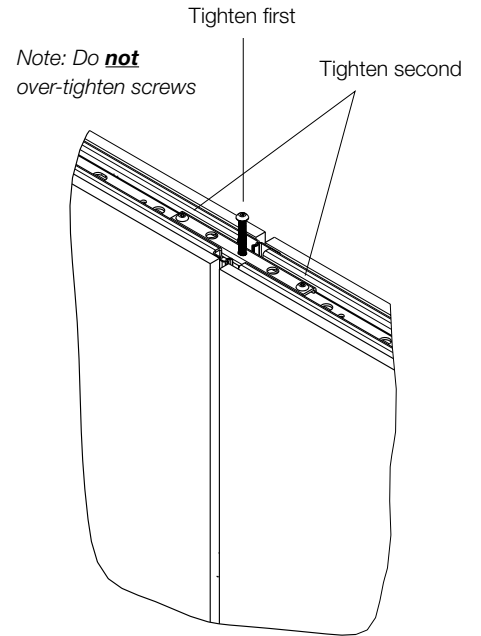

Fig. 6
6. Tighten 7" screw. Do **not** over-tighten. (Fig. 6)
7. Tighten 3/4" screws. Do **not** over-tighten. (Fig. 6)
6. Bring panel to post (Fig. 6)